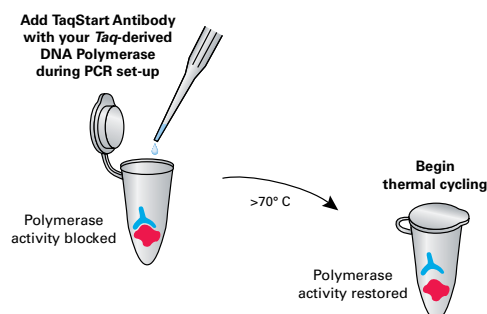

Figure 1. TaqStart Antibody inhibits polymerase activity before thermal cycling begins.
The **Mir-X miRNA First-Strand Synthesis Kit** uses a simple, single-step reaction with an optimized mix of poly(A) polymerase and **SMART™ MMLV Reverse Transcriptase** to synthesize first-strand cDNA from your total RNA or small RNA sample (Figure 1). The cDNA is then specifically amplified and quantified by qPCR using your miRNA-specific primer and our SYBR Advantage qPCR Premix. Multiple miRNA species, as well as the mRNA targets of the miRNAs, can be amplified from a single cDNA sample. The system is extremely sensitive, and able to detect miRNAs down to 50 copies.
Figure 1. Mir-X miRNA qRT-PCR SYBR Kits use a single-step, single-tube reaction to produce first-strand cDNA, which is then specifically and quantitatively amplified using a miRNA-specific primer and our SYBR Advantage qPCR Premix. In the Mir-X cDNA synthesis reaction, your RNA is first polyadenylated using poly(A) polymerase, then reverse transcribed using a modified oligo(dT) primer and SMART™ MMLV Reverse Transcriptase.
TaqStart Antibody provides an antibody-mediated hot start that enhances the specificity of your PCR reactions (1). This antibody inhibits polymerase activity before the onset of thermal cycling, preventing nonspecific amplification and primer-dimer formation (Figures 1 and 2). When the reaction temperature is raised, the antibody is quickly inactivated and PCR proceeds.